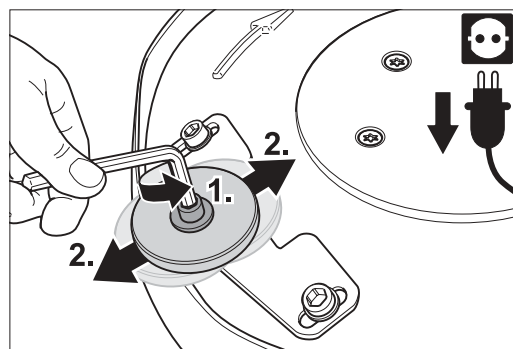
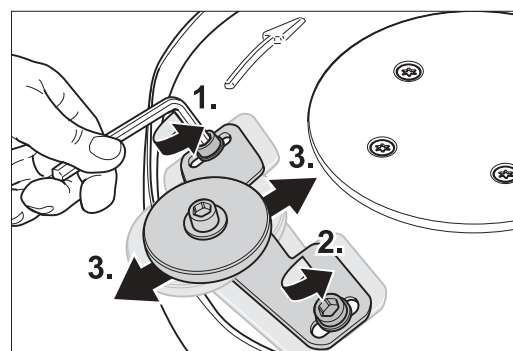

Fig. 26: Undo the screw in the centre of the wall-protecting wheel and then position the wheel.
Fig. 27: Undo the screws on the wall-protecting wheel bracket.
- 3 Use an Allen key to undo the screw in the centre of the wall-protecting wheel and then move the wall-protecting wheel into the desired position (Fig. 26). Tighten the screw again. You can also increase the adjustment distance of the wall-protecting wheel by undoing the two screws with which the wall-protecting wheel bracket is fastened to the attachment (Fig. 27, 1. + 2.).
- 4 Move the wall-protecting wheel bracket into your desired position (Fig. 27, 3.) and then tighten the screws again.